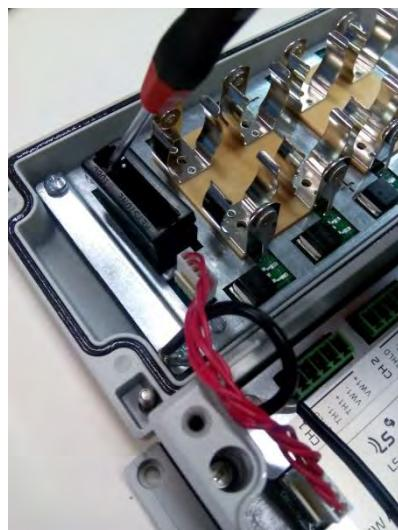

Figure 2: Removal of the upper enclosure of the battery holder.
- b. Insert RTC battery (small battery included). First remove the upper enclosure of the battery holder (Figure 2). Polarity is indicated inside the holder.